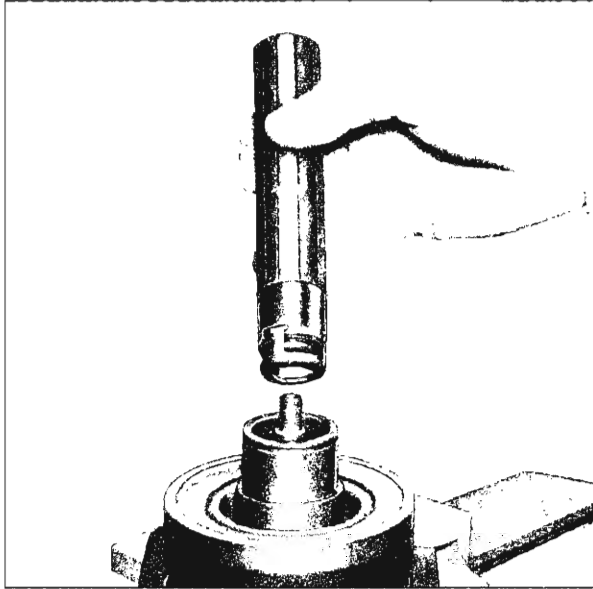

Fig. 26—Replacing Seal
1. Engage seal onto the locking tangs of Tool J-9392 (fig. 26) and carefully insert the seal and tool over the end of the shaft. Turn seal to engage the flat on the shaft, then remove the tool.